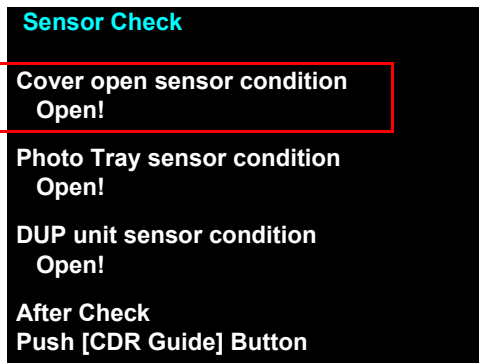

Figure 5-19. Case open sensor check (3)
7. Open the scanner and replace the gauge to the thickness gauge 3 mm, and confirm the Cover open sensor condition changes to “Open!” even when the scanner is closed. (Refer to Figure 5-19.)